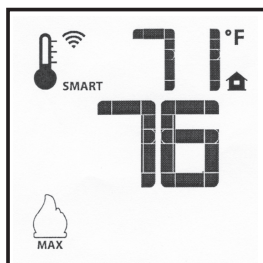

Figure 33 - Remote Control Displaying Room Temperature and Set Temperature
1. To activate this function, press the **Thermostat** key until the word "Smart" appears to the right of the temperature bulb on the screen (see Figure 33).